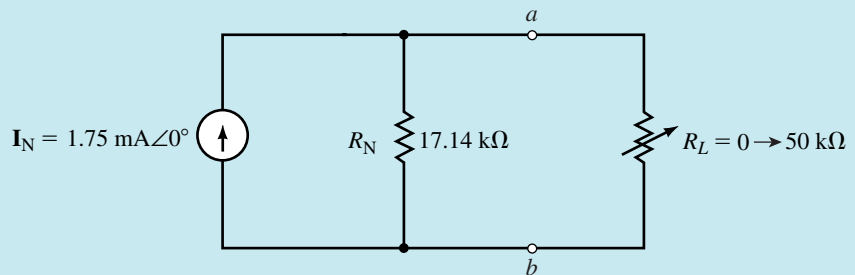

FIGURE 20–44
Step 5: The Norton equivalent circuit is shown in Figure 20–44.